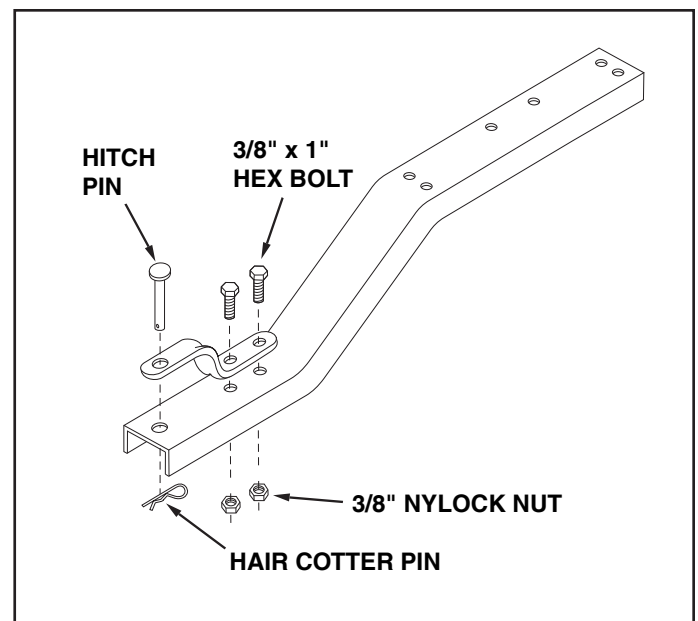

FIGURE 7
9. Assemble the hitch bracket to the tongue using two 3/8" x 1" hex bolts and 3/8" nylock nuts. **Tighten**. See figure 7.
10. Assemble the hitch pin through the hitch bracket and the tongue. Secure it with the hair cotter pin. See figure 7.